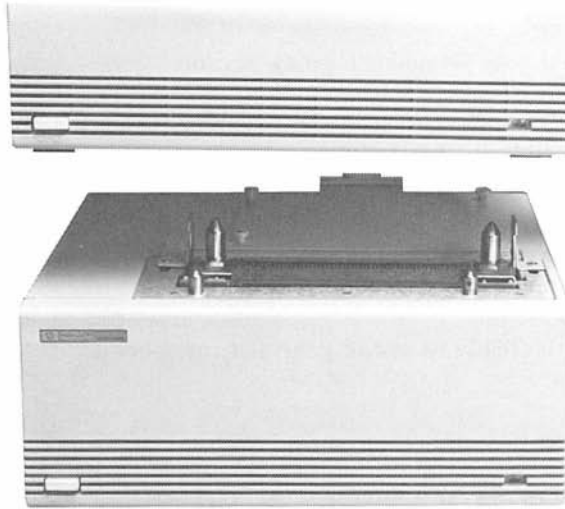

Figure 8-2. Connecting the HP 98700 to the HP 98710A
- e. Gently but firmly press the HP 98700 down until the connector engages and seats (see Figure 8-2).